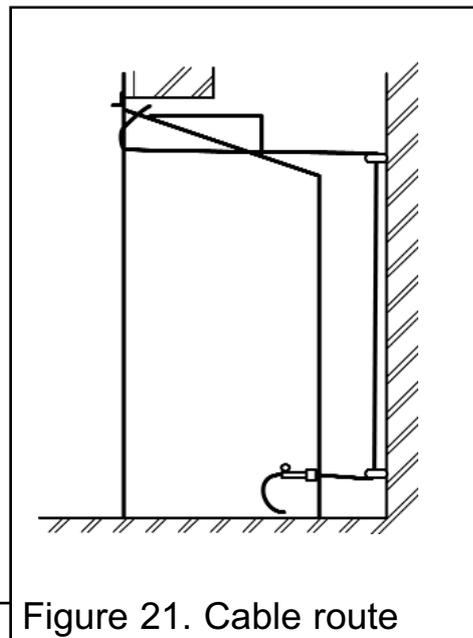

Figure 21. Cable route
6. Thread the cables through the eyebolts. Return the cables through the holes near the bottom of the hotbox back panel (See figure 21) (**For precast or clay block flue systems return the cables through the slotted holes in the side of the hotbox**).